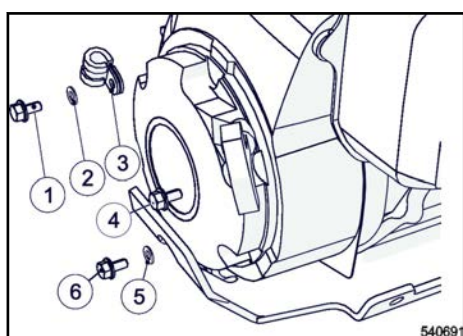

Fig. 56
Attach the screw M6x12 (1) ↪ Fig. 56 with washer (2) and clamp (3) to the recoil starter.